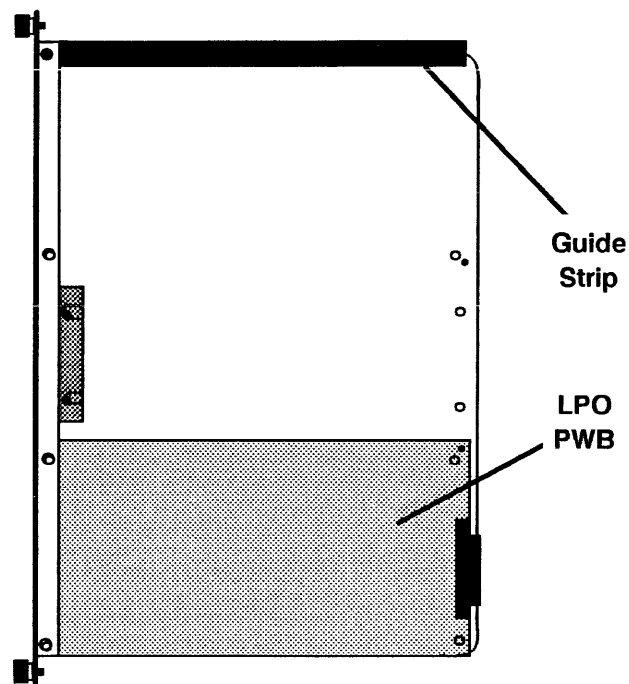

Figure 26. C5 Stiffener with LPO PWB and Guide Strip
2. Install the new C5 stiffener with the LPO PWB in the C5 slot. Be sure to line up the edges of the LPO PWB and the guide strip (Figure 26) with the guide rails in the processor. Push the stiffener gently into place until the thumbscrews can be engaged. Forcing the stiffener into the processor may damage the PWB connector, the backplane, or the stiffener. Tighten the two thumbscrews finger tight. Go to step 9.
4. Unpack the new C5 stiffener with the LPO PWB. Remove the screws that hold the guide strip in place (Figure 26) and discard both the guide strip and the screws.